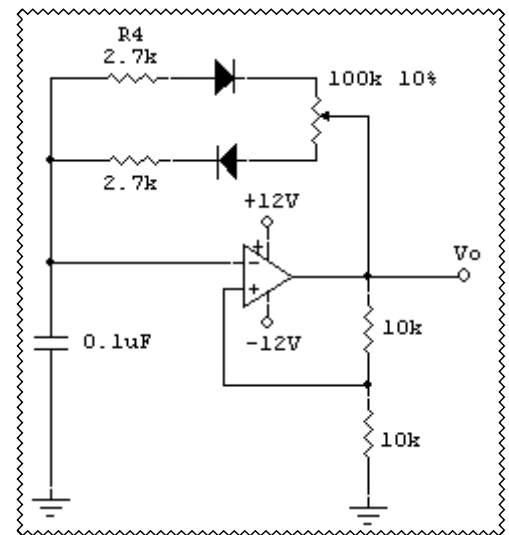

Fig. 1
1. Build the circuit shown in Fig.1.